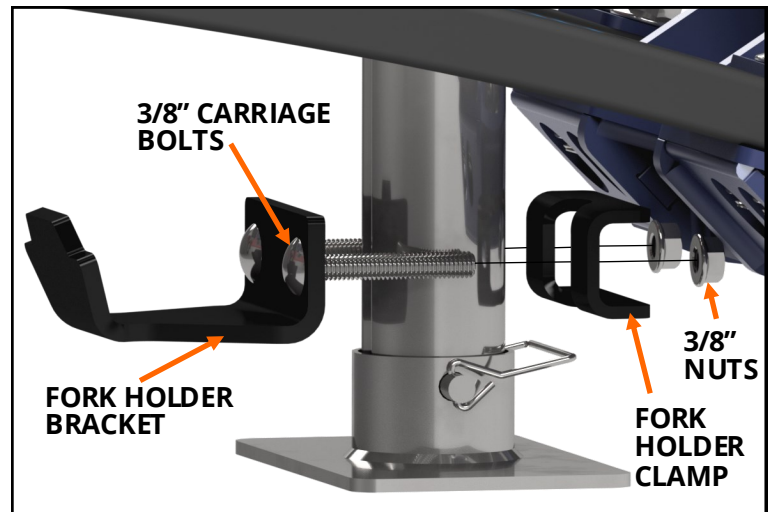

FIGURE H1: View of the jack foot under the trailer.
1. **Install fork holder bracket.** Retrieve the fork holder bracket, fork holder clamp, two 3/8" carriage bolts, and two 3/8" nuts. Insert the two carriage bolts into the fork holder bracket, and then place the assembly around the leg of the jack stand. Attach the fork holder clamp to the fork holder bracket using the 3/8" carriage bolts, and then secure it with the two 3/8" nuts. The bracket must be aligned so it is in front of the tongue jack and above the jack foot, **see Figure H1**. Torque the 3/8" nuts to 30 ft.-lbs.